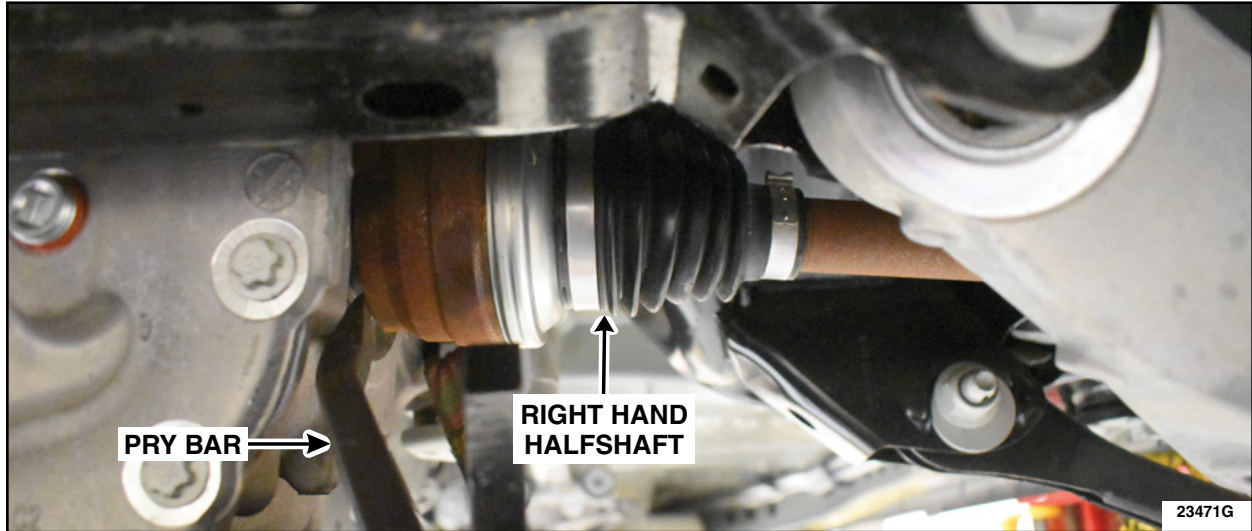

FIGURE 7
12. Using a pry bar, remove the Left Hand (LH) halfshaft.
13. Using a pry bar, disengage the Right Hand (RH) halfshaft inner halfshaft cir-clip. See Figure 7.